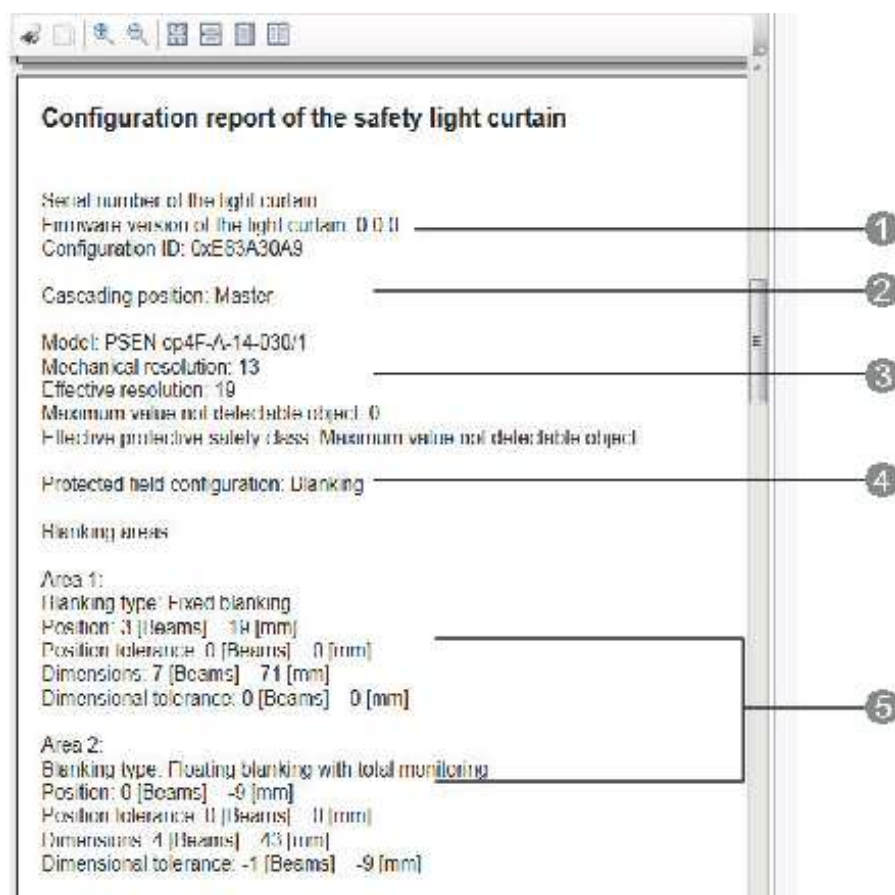

Fig. 30 – Safety report
- 3) **Checking the report:** The light curtain sends the received configuration back to the PSENopt Configurator and PSENopt Configurator generates a printable SAFETY REPORT, which contains all the safety-related information about the present configuration (Fig. 30). Once all the content of the report has been checked, the user can accept the configuration: the light curtain restarts normal operation with the new configuration.